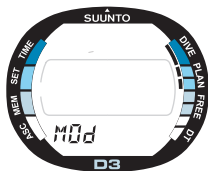
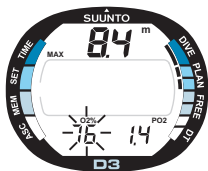

Fig. 3.15. Maximum Operation Depth Planner. The Planning mode is indicated by the Mod text and mode indicators.
Fig. 3.16. The Gauge Mod shows the Maximum Operating Depth and the corresponding $O_2\%$ and PO_2 values.
It is possible at any time in the Gauge Surface Mode to enter the MOD planner, simply by pressing the **S** button. After showing the text MOD and the plan indicator (Fig. 3.15.), the display will show the Maximum Operating Depth (MOD) value corresponding to the selected $O_2\%$ and PO_2 levels (Fig 3.16.).
2. Wait two seconds until the MOD calculator activates automatically. The oxygen level starts to blink on the display (Fig. 3.16.).